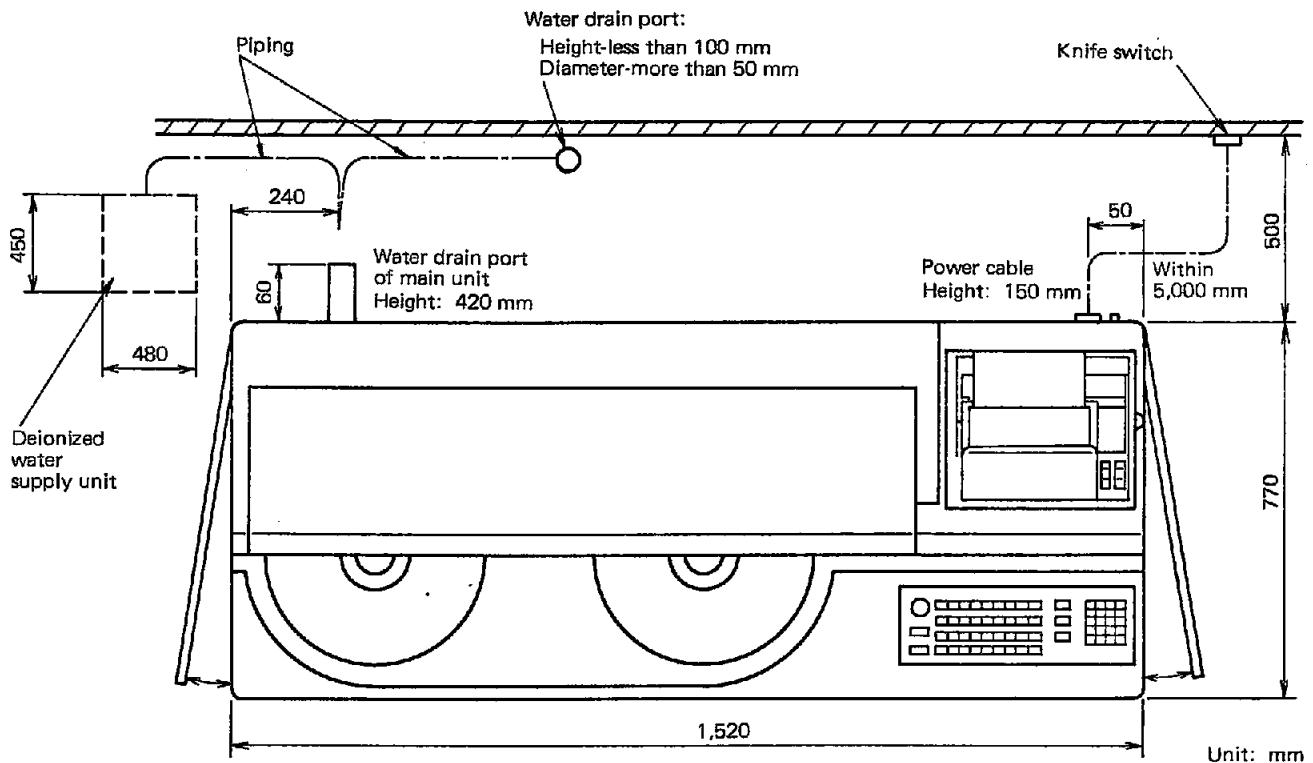

Fig. 4-1-1 Instrument Layout
(1) Main Unit
- (a) Leave a space of at least 50 cm behind the instrument and at least 1 m in front of it as shown in Fig. 4-1-1.